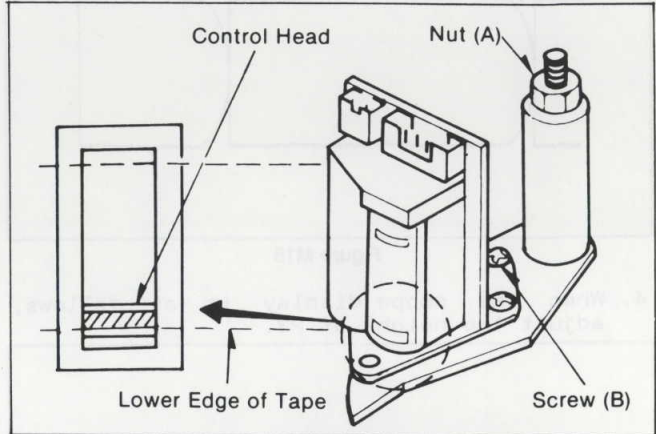

Figure M13
1. Play back a tape and confirm the tape runs between lower and top limiters of the post P4 by using the check light. If the lower or top edge of the tape vibrates with waving or frilling, correct the tilt of the A/C head by turning black screw (B) shown in Figure M13.